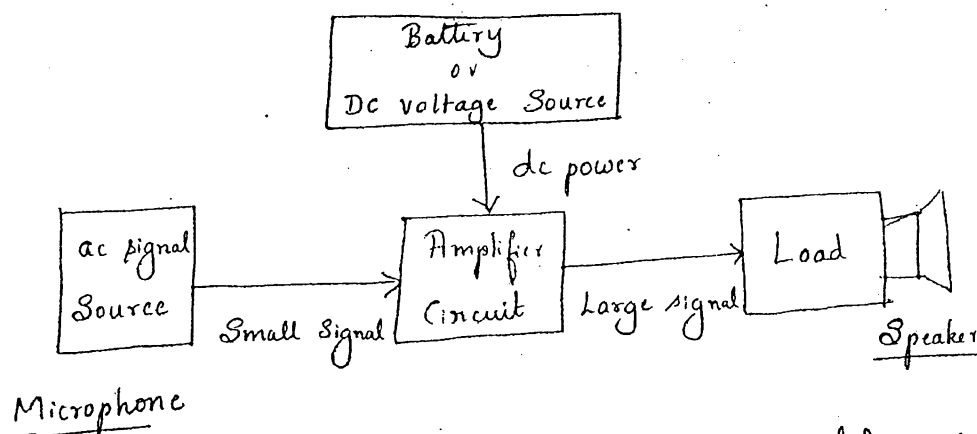

Figure 1: Block diagram of an audio amplifier system.
- Figure 1 shows the block diagram of an audio amplifier. The dc voltage source is connected to the amplifier and it is used as source of energy for amplification.